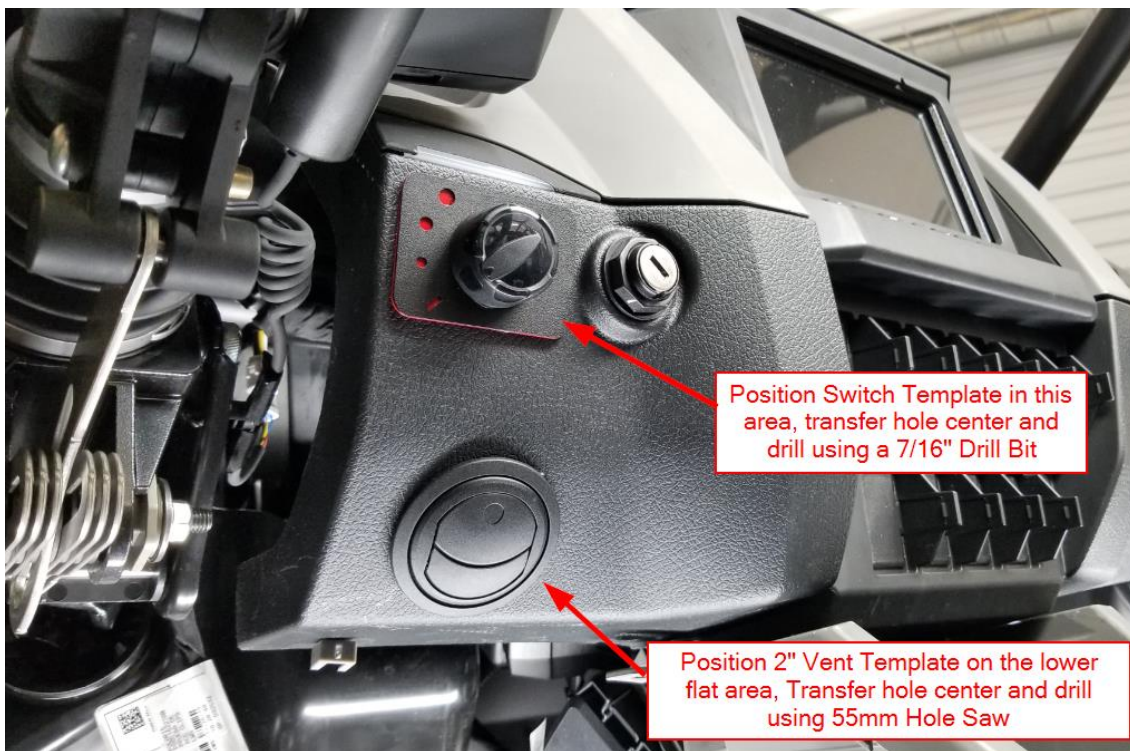

Figure 2
- Position the Switch Location Template and the 2" Vent Template in the areas shown in Figure 2. Transfer the hole centers of each. Drill the Switch mounting hole location with a 7/16" drill bit. Drill the 2" Vent with a 54mm Hole Saw and Pilot Bit.